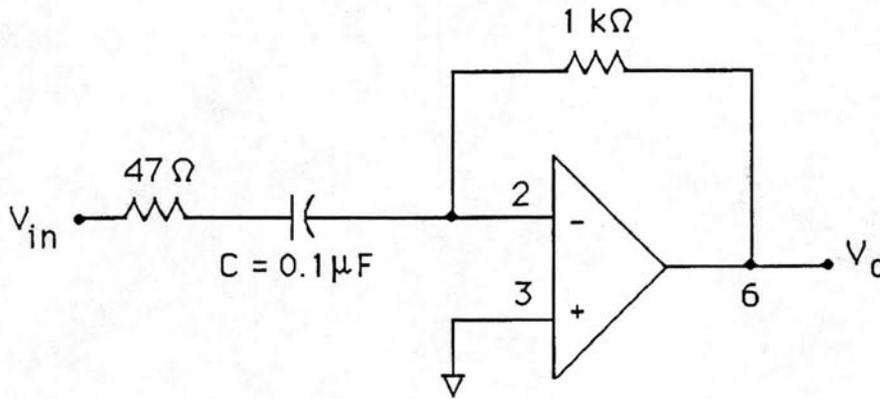

Figure 9.10: Differentiator circuit 9.6.2.
9.6.2 Differentiator. - Circuit 9.6.2 Assemble the circuit shown in Figure 9.10 The input-output relationship for this circuit is given by